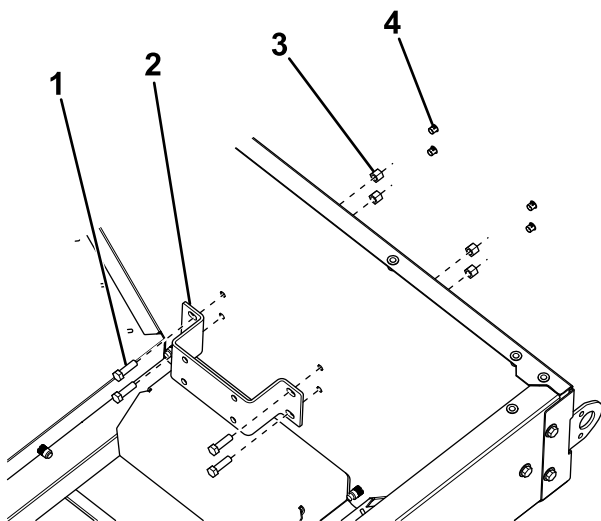

Figure 14
- Remove and discard the 4 plugs from the front of the spreader (Figure 14).
- Secure a baffle mounting bracket to the inside front of the spreader using 4 bolts (3/8 x 1-1/4 inches) and nuts (Figure 14).